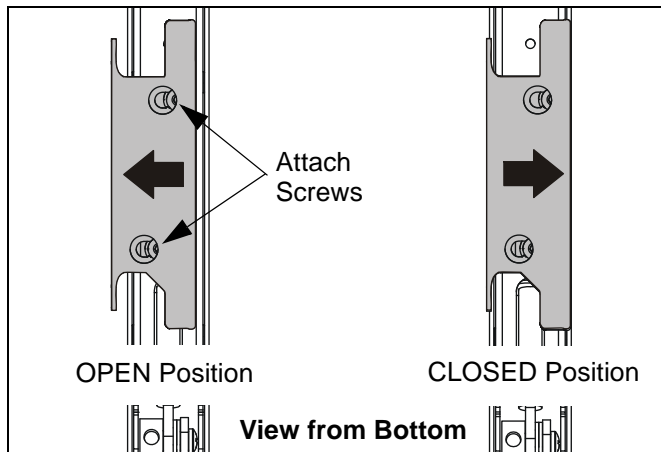

Figure 20: Height Adjustable Arm - Cable Management Bracket
2. Open the cable management bracket by sliding it towards the edge of the arm (See Figure 20).
4. Close cable management bracket by sliding it back towards the centerline of the arm (See Figure 20).